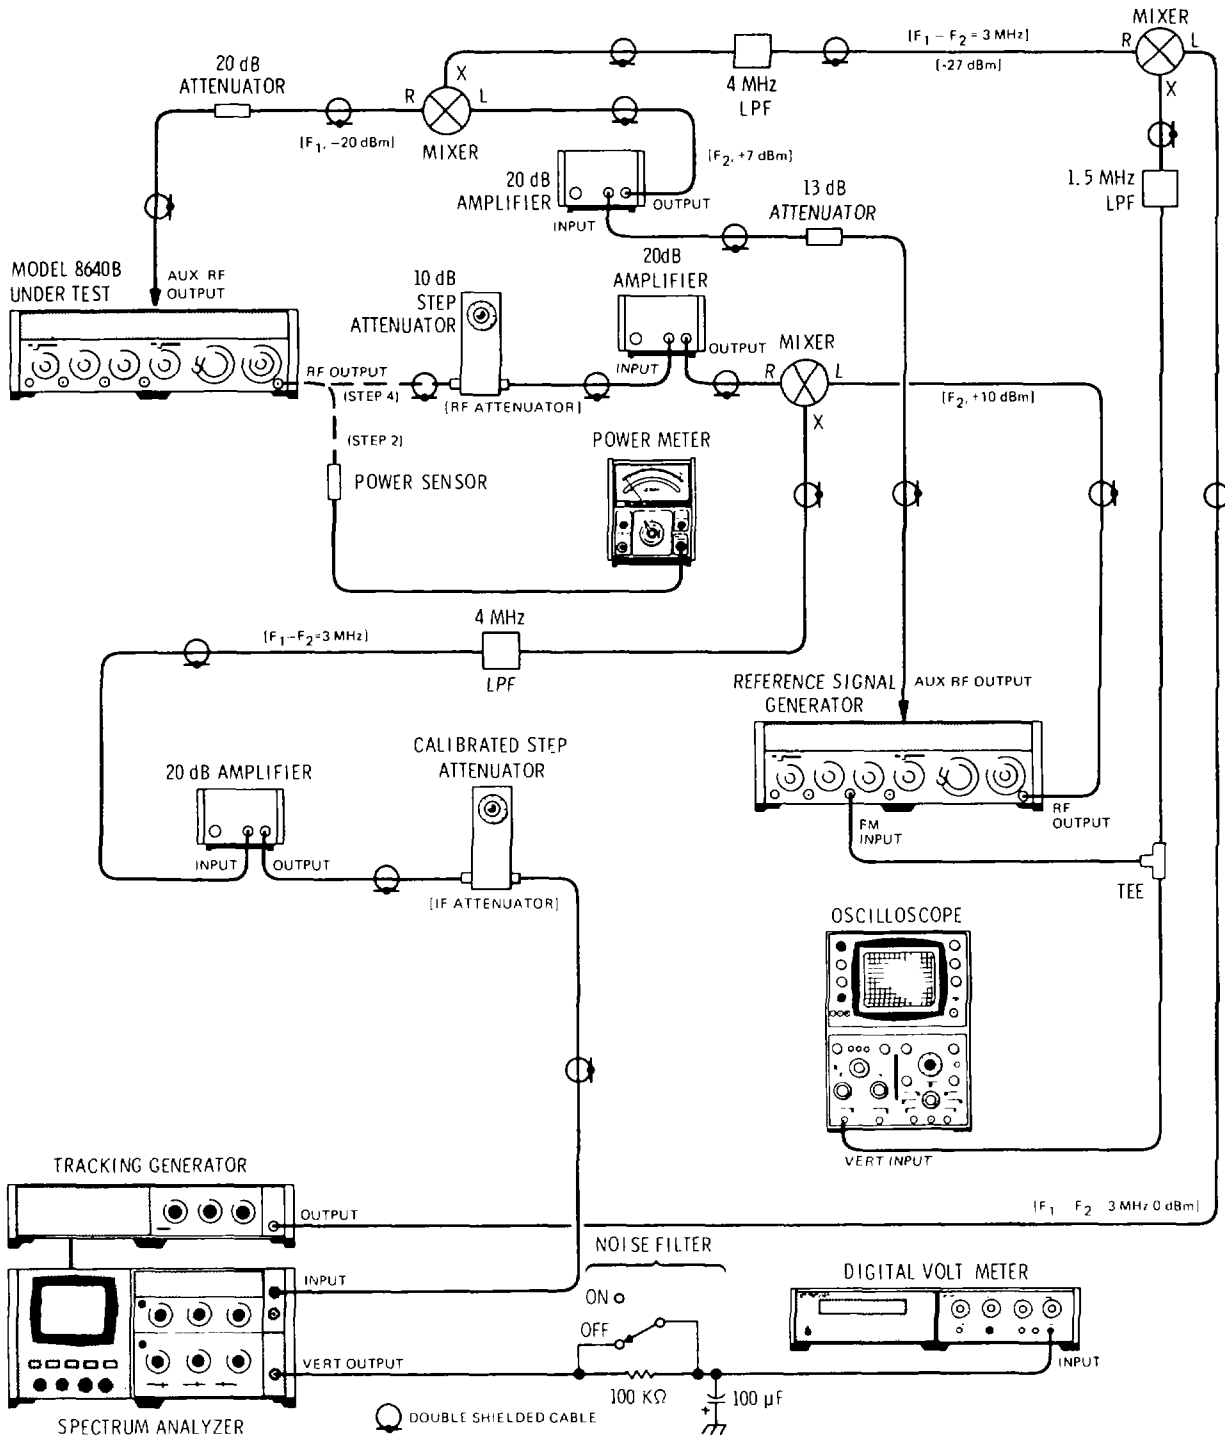

Figure 4-11. Output Level Accuracy Test Setup (Complete).
4. Disconnect power meter and sensor from generator. Connect test generator's RF OUTPUT to the step attenuator as shown in Figure 4-11. Do not change any of the test generator's control settings (particularly the OUTPUT LEVEL vernier).